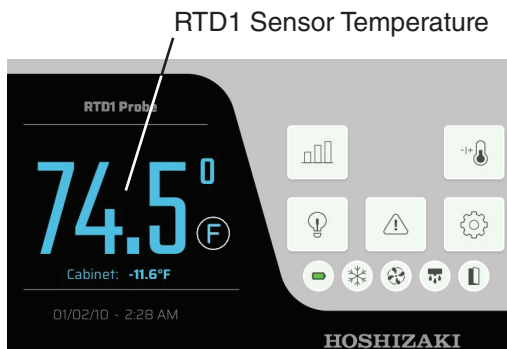

Fig. 22
- Press and release the center of the RTD1 probe temperature display. The touchscreen setup view is shown. See Fig. 22.